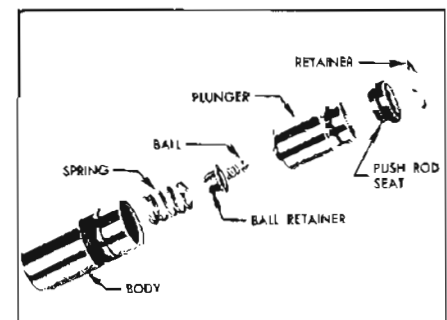

Figure 2-31—Hydraulic Valve Lifter Parts
2. Hold plunger in vertical position with feed hole up, then rinse and install the check ball, ball retainer, spring, and body over the plunger. See parts in Figure 2-31.